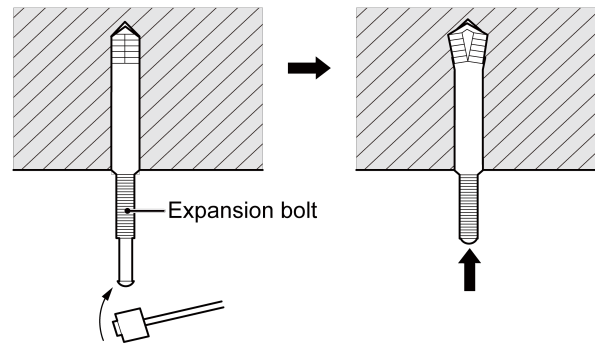

Fig.4.1.11
2) Insert M10 expansion bolt into hole, and then set the iron nail into bolt. As shown in Fig.4.1.11, and then remove the paper pattern.